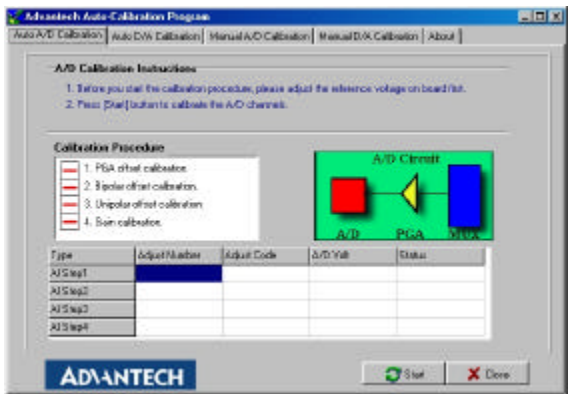

Fig. 5-6 Auto A/D Calibration Dialog Box
Step 4: Click the *Auto A/D Calibration* tab to show the A/D channel auto-calibration panel (Fig. 5-6). Press the start button to calibrate A/D channels automatically.